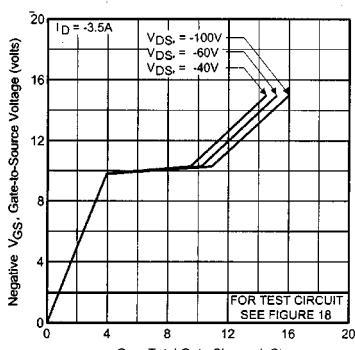

Fig. 11 — Typical Gate Charge Vs.
① Repetitive rating; pulse width limited by max. junction temperature (See Figure 11)
③ $I_{SD}\leq-3.5\text{A}$, $dI/dt\leq95\text{A}/\mu\text{s}$, $V_{DD}\leq V_{(\text{BR})\text{DSS}}$, $T_J\leq150^\circ\text{C}$
② Not Applicable
④ Pulse width $\leq 300 \mu\text{s}$; duty cycle $\leq 2\%$.